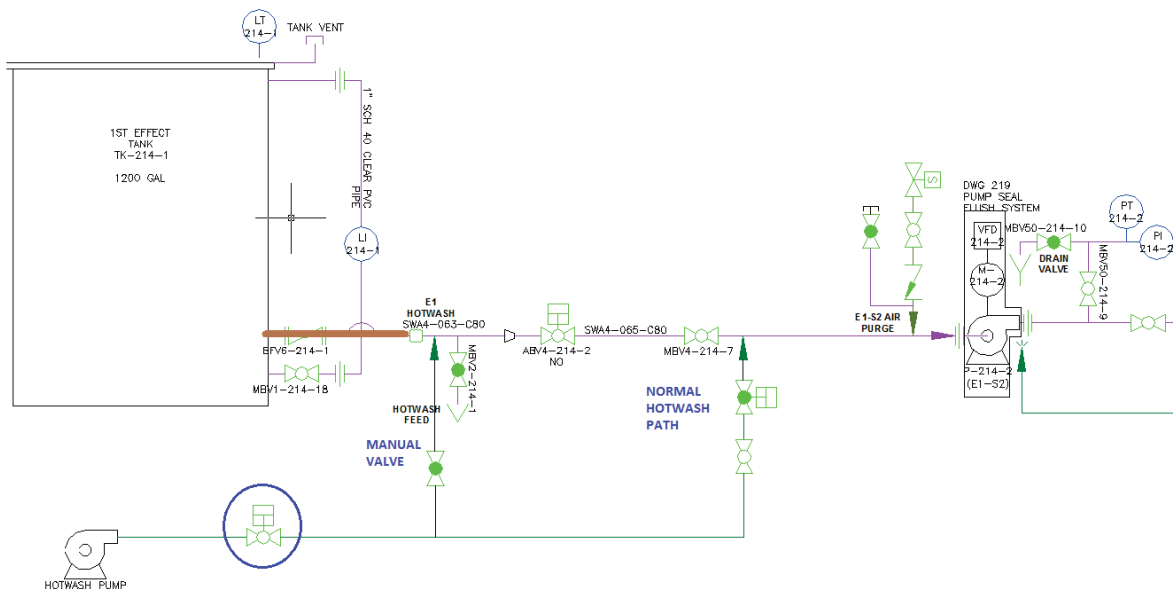

Figure B1: Salt Crust on Pump Inlet, indicated in brown
We will go through the high level steps outlined below to perform a manual wash to clear the clog outlined in *figure B1*.
3. If the system does not recover, the system is likely experiencing a pump inlet blockage. (see *figure B1*).